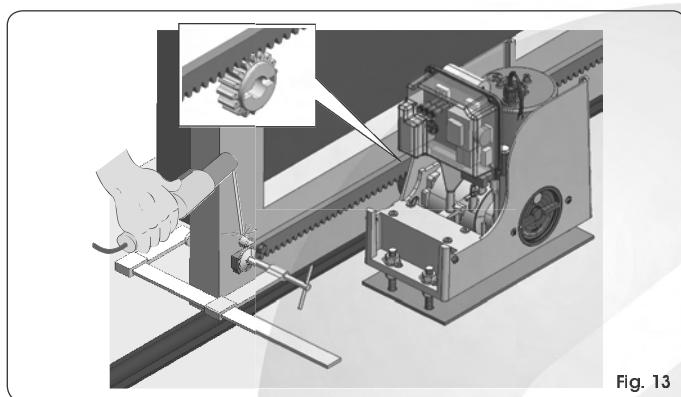

Fig. 13
- Lay the first piece of rack level on the pinion and weld the threaded pawl on the gate as shown in Fig.13.